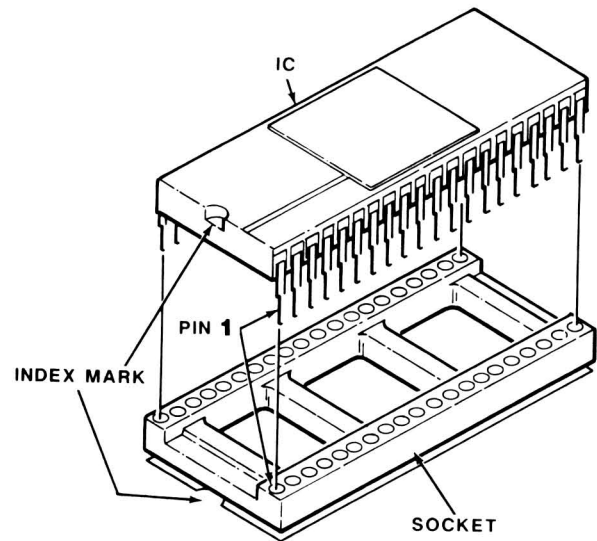

Figure 20-3. Orientation and Alignment of the IC
6. Make sure that the pin 1 end of the IC is positioned over the index mark on the circuit board (not the socket) as shown in Figure 20-3.